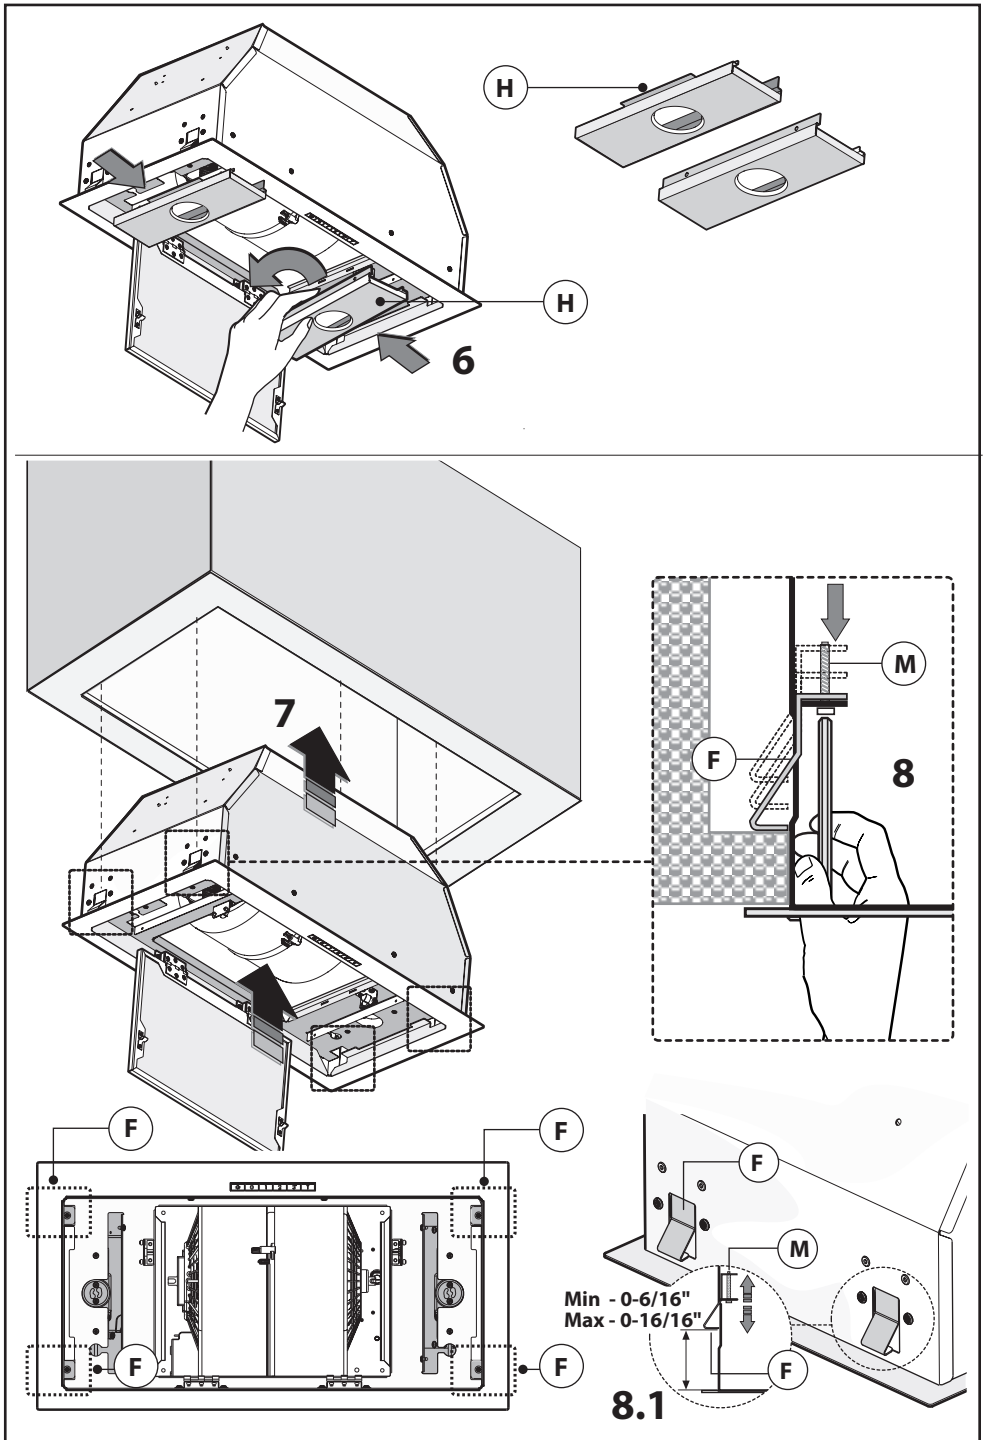

Fig.4
- Remove the light fixtures **H** to make installation easier as indicated in **Fig. 4 - step 6**.
- Make sure the thickness of the wall cabinet is within the measures indicated in **Fig. 4 - step 8.1**.
- Insert the hood inside the cabinet **Fig. 4 - step 7** and make sure that the 4 springs **F** snap in place.
Fasten the hood to the wall cabinet using the screwdriver and the relative screws **M** and tighten until the device is flush against the cabinet **Fig. 4 - step 8**.